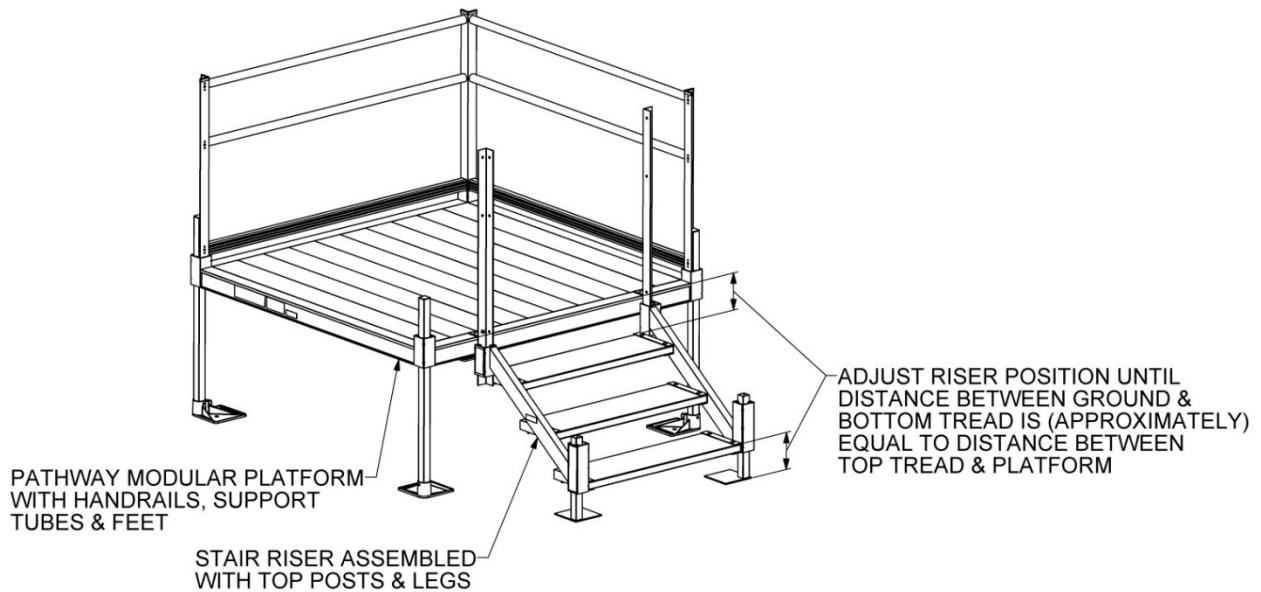

FIG. 7
- 3.4. Hang the stair assembly on the platform in the desired location. Adjust the vertical position of the riser on the legs and top posts by loosening and retightening the 3/8"-16 set screws in the riser corner pockets until the distance from bottom tread to ground is approximately the same distance from top tread to the platform walking surface and the stair treads are level. After the riser has been positioned and leveled, tighten all set screws in the corner pockets for stair top posts and legs securely (FIG. 7).